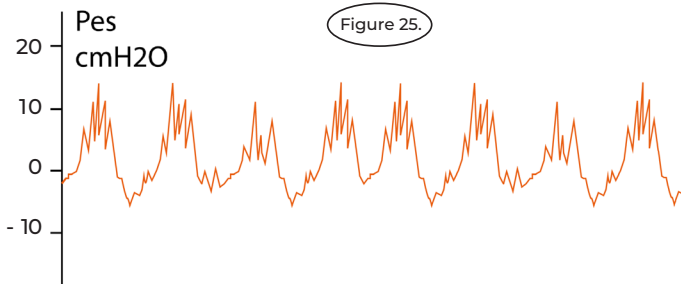

Figure 25. Example of cardiac oscillations within the esophageal pressure signal.
- **WARNING:** Be aware of cardiac oscillations during measurements (see Figure 25 for an example). Cardiac oscillations can negatively impact both absolute esophageal pressure and esophageal pressure swings (relative esophageal pressure) and their related parameters. The following measures are recommended if cardiac oscillations are negatively impacting the measurements: